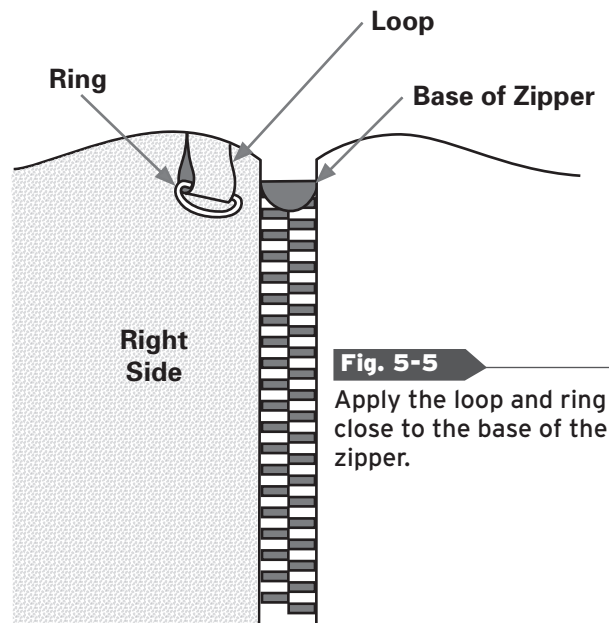

Fig. 5-5
- To add the ring for the swivel hook, slide the ring onto the center of the $\frac{1}{2}$ inch \times 2 inch (1.3 cm \times 5 cm) suede strip. With wrong sides facing, fold the strip in half and adhere the short ends together with basting tape. Use basting tape to adhere the ends to the edge of a suede piece next to the base of the zipper. (Fig. 5-5)